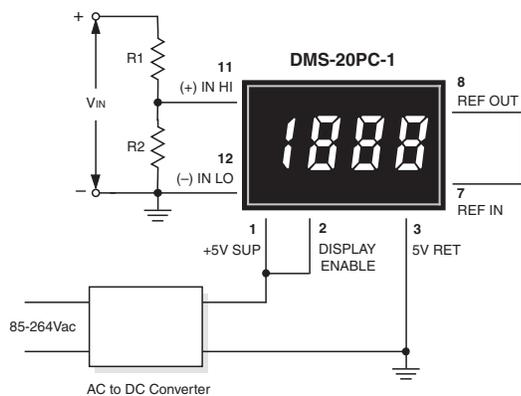

Figure 4. Input Attenuation Circuit
3. Engineering Scaling: For measuring voltages greater than the full scale input range of a given meter, the input signal must be attenuated. A simple voltage divider (similar to that shown in Figure 4) will scale the input to within the range of the selected meter. R1 and R2 should be precision, ±1%, metal-film resistors with absolute TCR's less than 50ppm/°C. See Ap Note 4 for more information on engineering scaling.